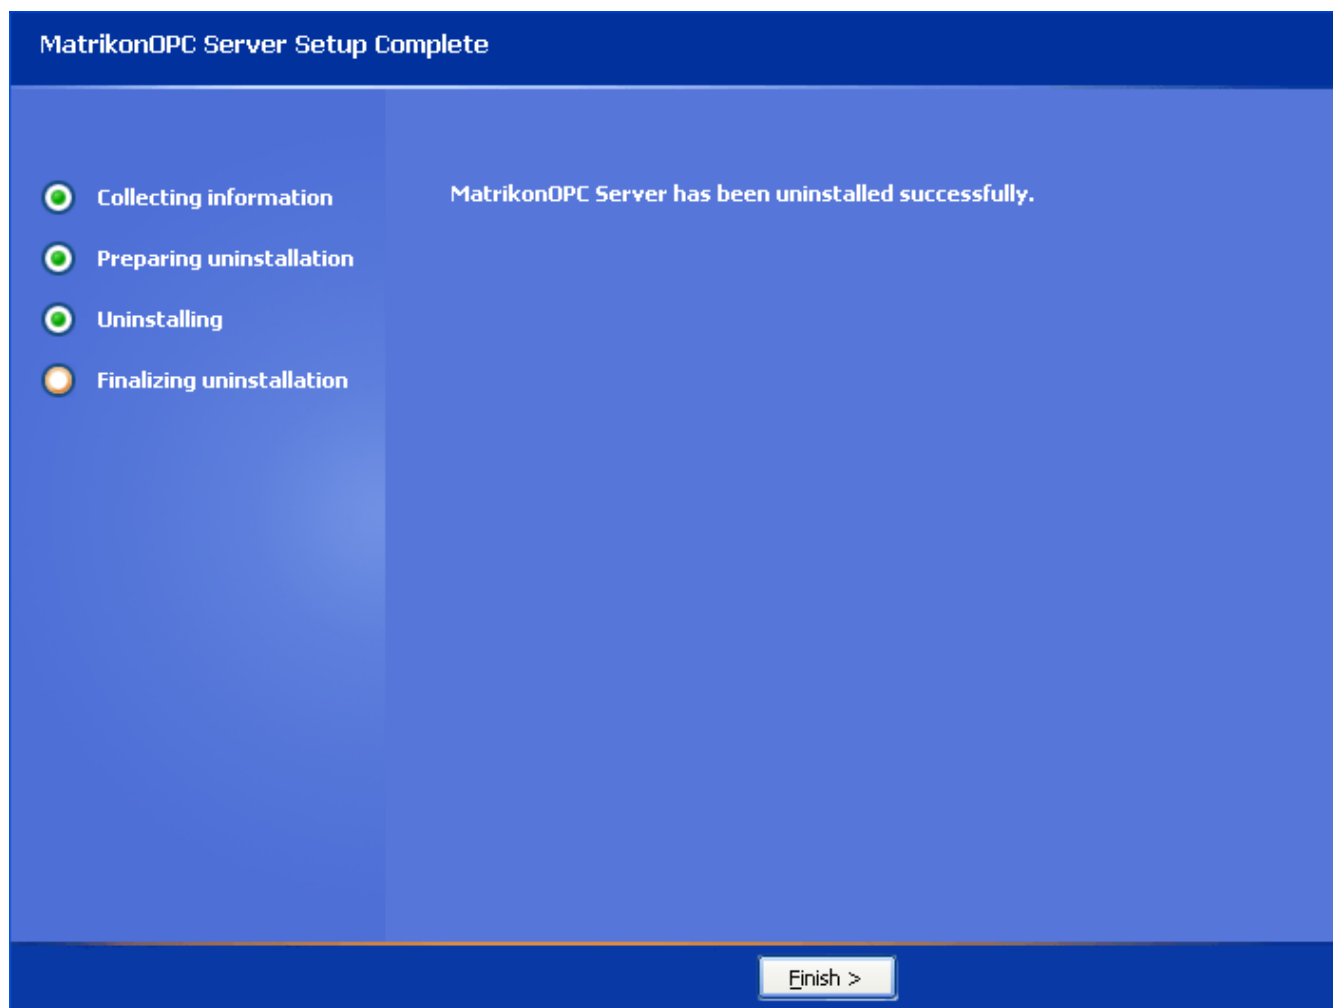

Figure 93 - MatrikonOPC Server for GDA Setup Complete Screen
11. When the un-install has finished, the **MatrikonOPC Server for GDA Setup Complete** screen (Figure 93) appears stating that MatrikonOPC Server for GDA was successfully un-installed.